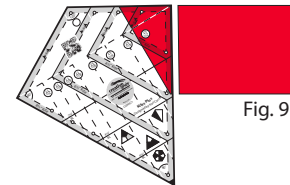

Fig. 9
2. Rotate the ruler so that the 90° corner is at the top edge of the fabric strip. Place the side of the ruler next to the point of the triangle just cut. Then, cut the right side to create a second triangle. Repeat the above steps to continue cutting TT. Fig. 9